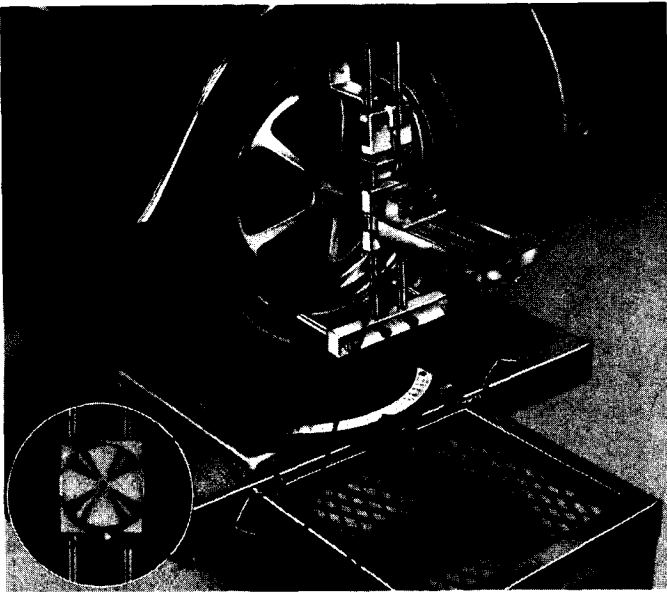

Figure 12 — Universal Rim Adaptor
For small wheels (down to 8 inches), loosen the two knurled screws at the base that fits against the lower part of the wheel rim (See Figure 12). Slide it to the upper set of screw holes. Be sure that the tips of the knurled screws are in the holes before tightening them. For wheels down to 6 inches, remove the two screws at the bar that fits against the upper part of the rim. Reverse the bar and refasten with the two screws. If the fender obstructs the adaptor, move the lower base to the upper set of screw holes.
2. Place the magnetic gauge on the adaptor as shown in Figure 12.